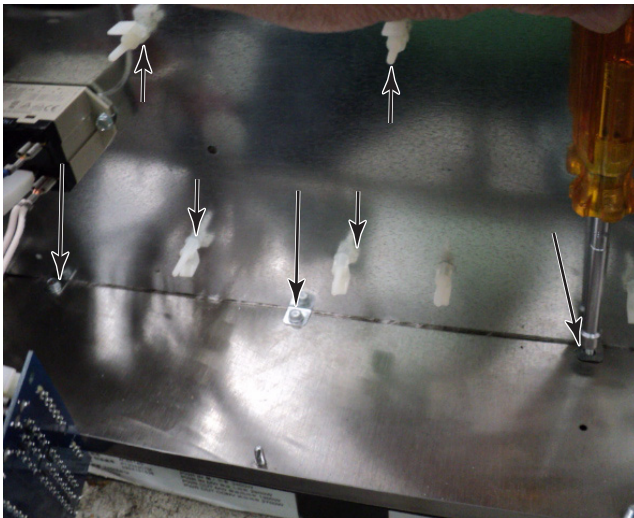

Figure 9
9. Remove control board from six standoffs and remove board and move out of way. Do not remove wires from control board (Figure 9).
10. Remove three bottom hex head screws from insulation retainer (Figure 9).